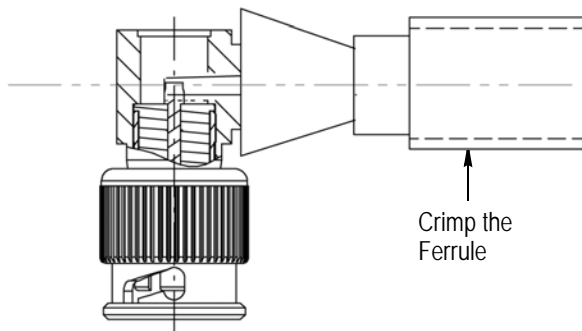

Figure 4
- Flare the cable braid and push the subassembly over the inner conductor (under the cable braid). See Figure 4.
- Slide the crimp ferrule back over the cable braid and housing assembly until the inner conductor is positioned in the center contact slot. See Figure 4.